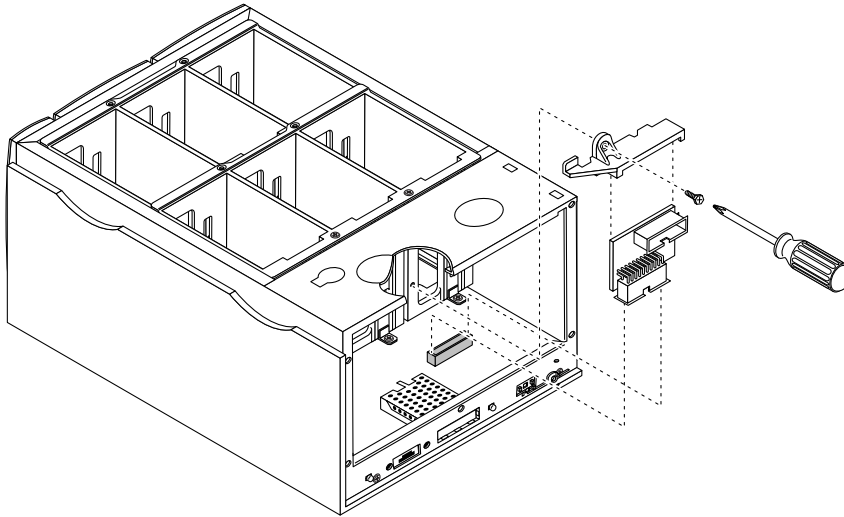

FIGURE 3-23 Removing the Daughter Board Clip and the Daughter Board
4. Remove the daughter board and its plastic clip from the drive cage (FIGURE 3-23).